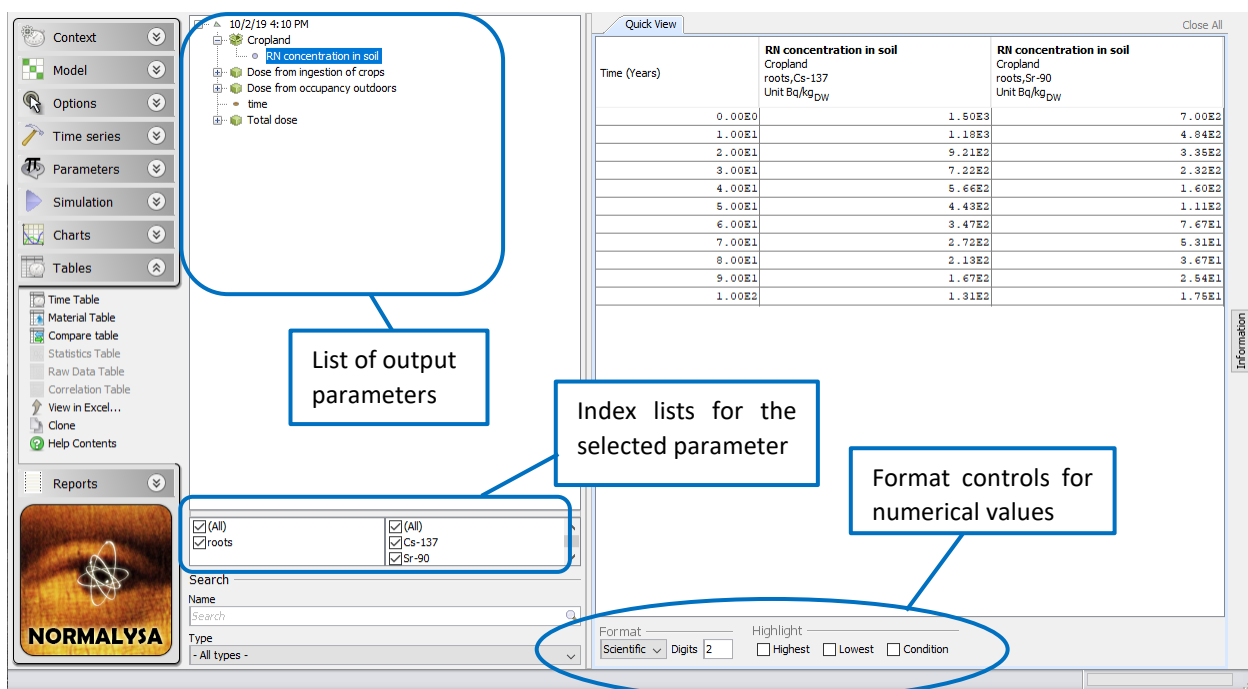

FIG 23. Displaying the table with the calculated radionuclide concentration in soil (in the rooting layer) in Exercise 4.
3. The time table displaying results of dose calculations for radionuclides (Cs-137, Sr-90) in soil will be shown in '*Quick View*' window (FIG 23).